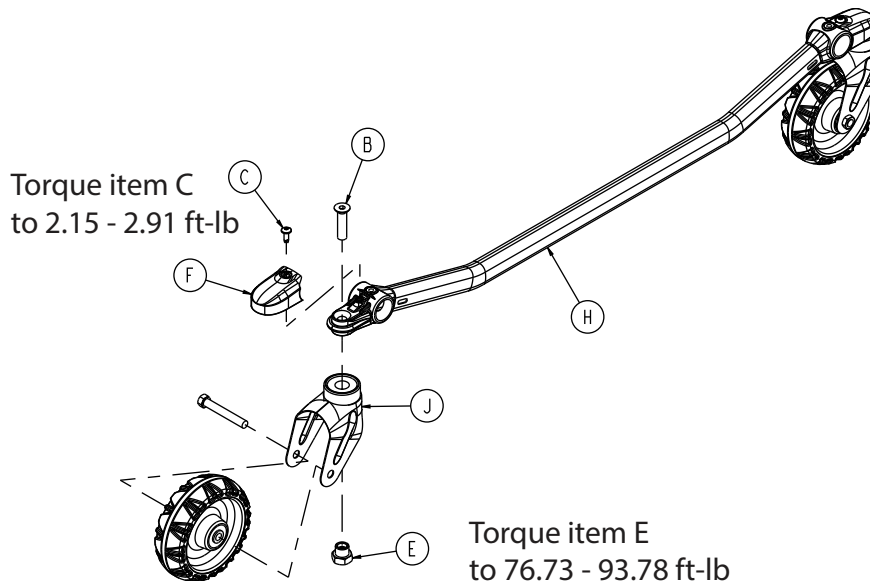

Figure 52 – Caster horn components (non-brake base tube)
5. Using a T30 Torx driver, remove the pan head machine screw (C) that secures the caster mount cover (F) to the base tube (Figure 52). Remove and save the caster mount cover. Save the screw.
6. Using a 1" combination wrench, remove the flat head/hex socket bolt (B) and caster nut (E) that secure the caster horn (J) to the base tube weldment (H) (Figure 52). Remove and discard the caster horn. Save the bolt and nut.